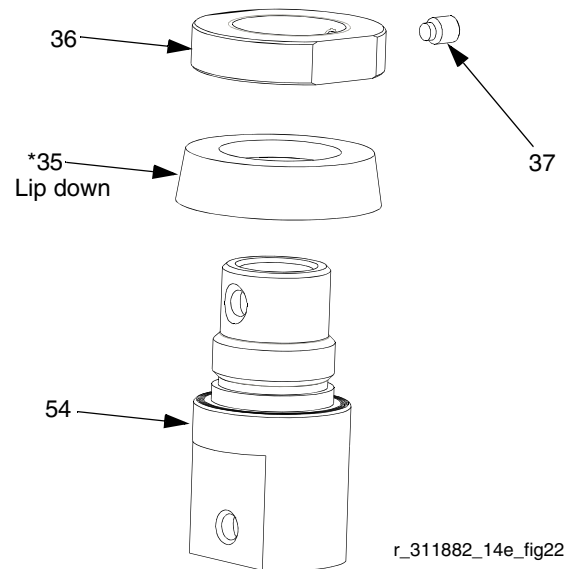

FIG. 22
- Loosen set screw (37) from collar (36). Remove collar from piston housing (54). Remove u-cup (35*). Inspect all parts for damage. See FIG. 22.